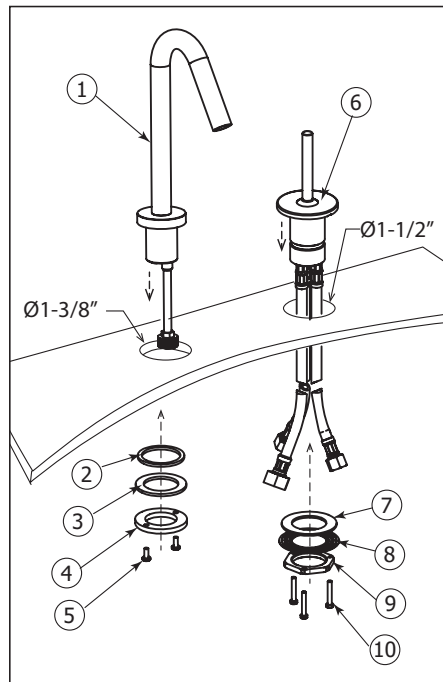

Fig.2
Insert the spout (1) into the hole (Ø 1-3/8") of the sink or countertop as shown (Fig.2). Then, insert the rubber washer (2), the metal washer (3) and secure the spout with the metal nut (4). Tighten the two screws supplied (5).